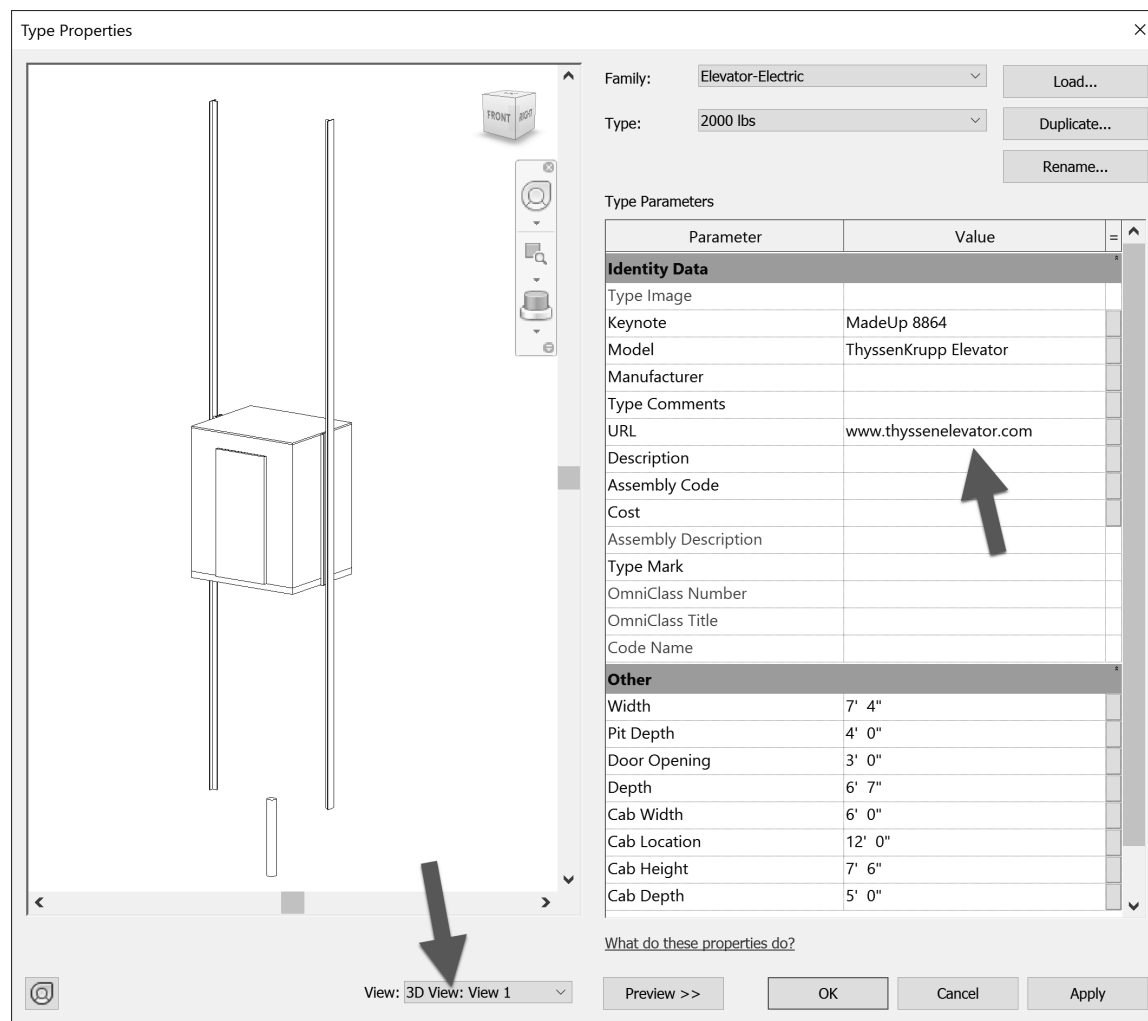

FIGURE 3-4.2 Elevator properties
9. Add the following information (Figure 3-4.2):